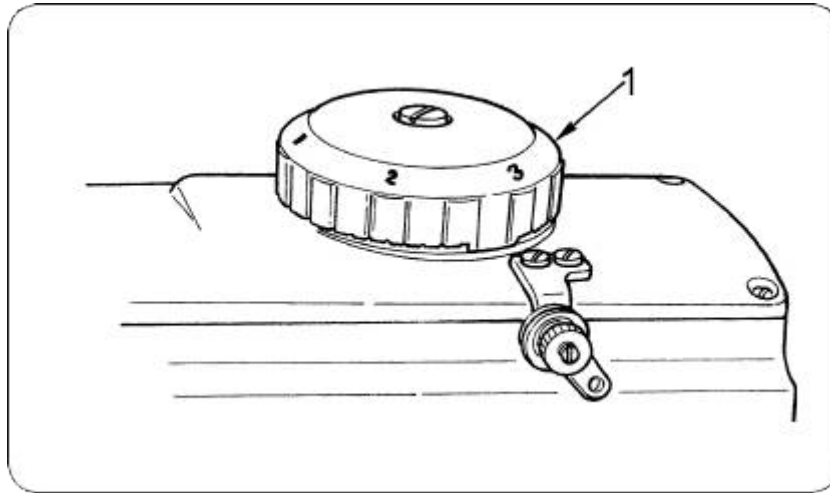
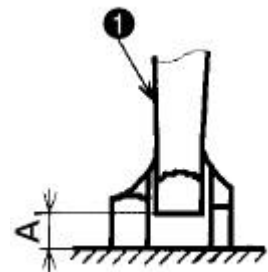

Figure 30
Figure 31
- To increase the alternation, turn the Climbing device dial (Fig 30, Item 1) to a higher number(clockwise). The higher the number, the larger the gap between the inner and outer foot grows (Fig 31, Item A).
- To decrease the alternation, turn the Climbing device dial (Fig 30, Item 1) to a lower number(counterclockwise). The lower the number, the smaller the gap between the inner and outer foot shrinks (Fig 31, Item A).